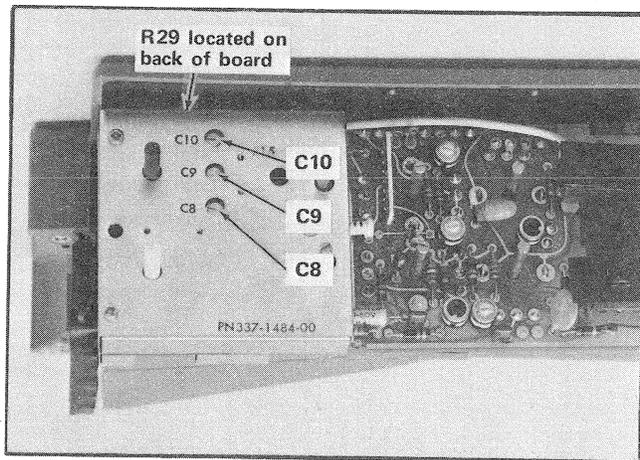

Fig. 4-4. Location of attenuator compensation capacitors.
e. ADJUST—C8 (see Fig. 4-4) for no more than +0.2 division, -0.1 division, or a total of 0.2 division of aberration.
h. ADJUST—C9 (see Fig. 4-4) for no more than +0.2 division, -0.1 division, or a total of 0.2 division of aberration.
k. ADJUST—C10 (see Fig. 4-4) for no more than +0.2 division, -0.1 division, or a total of 0.2 division of aberration.